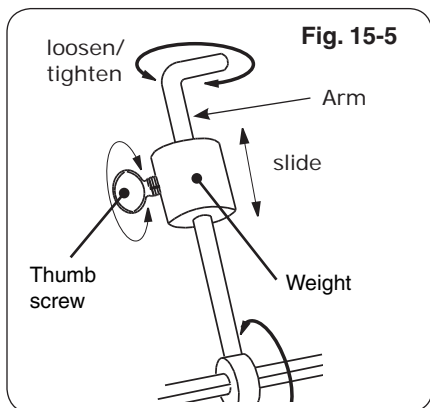

Fig. 15-5
9. Slide the counterbalance weight up or down the arm until the rod rotates most evenly then tighten thumb screw (Fig. 15-5 and Fig. 15-6).